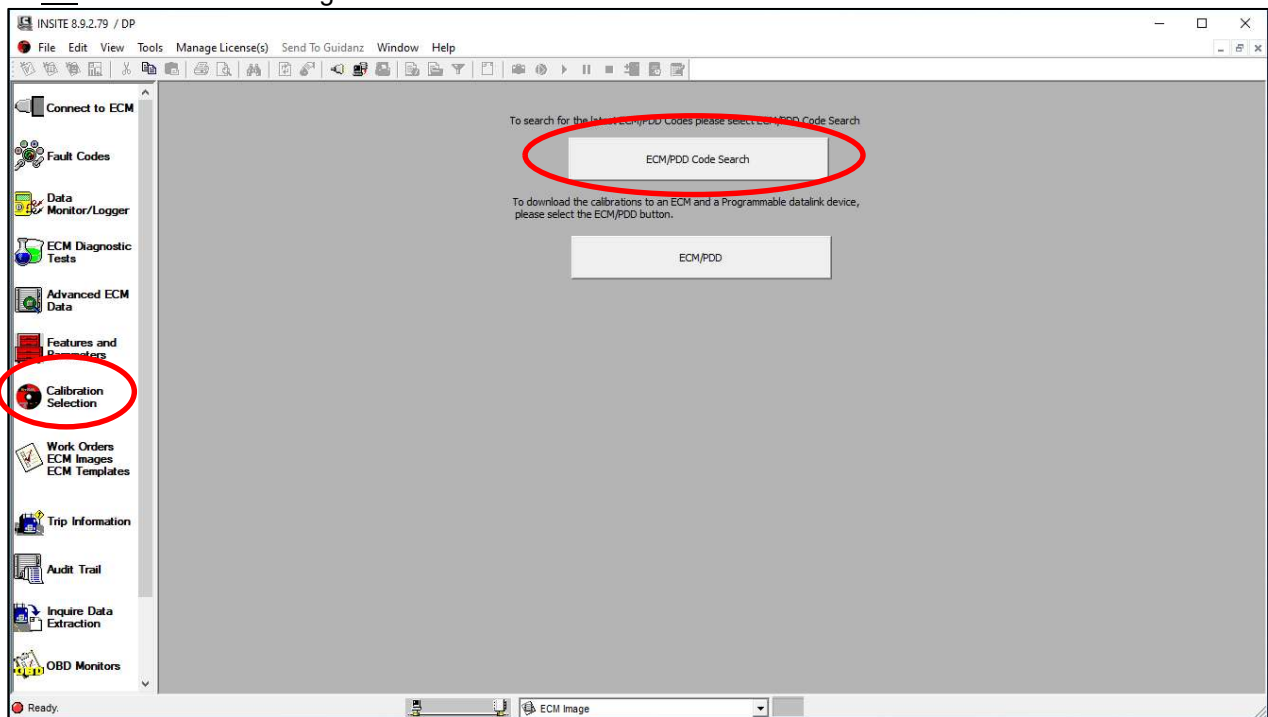

Figure 19
28. Using Insite and on the Calibration Selection page, select ECM/PDD Code Search. See figure 19. Note- Insite is not connected to the engine at this time.